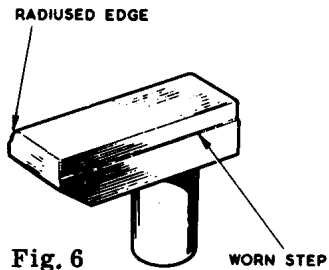

Fig. 6
8. When the mast has been dismantled into all its components, each piece should be carefully examined for damage and wear, especially seals and 'O' rings. Heavy wear or nicking can cause leakage and such seals and 'O' rings must be replaced (Figs 4 & 5). The nylon keys should be examined for wear and if stepped or radiused on the edges which engage the keyway they should be replaced (Fig 6). Pistons should also be replaced if broken and tubes if badly scored. Check guide pads and replace if missing or badly worn.